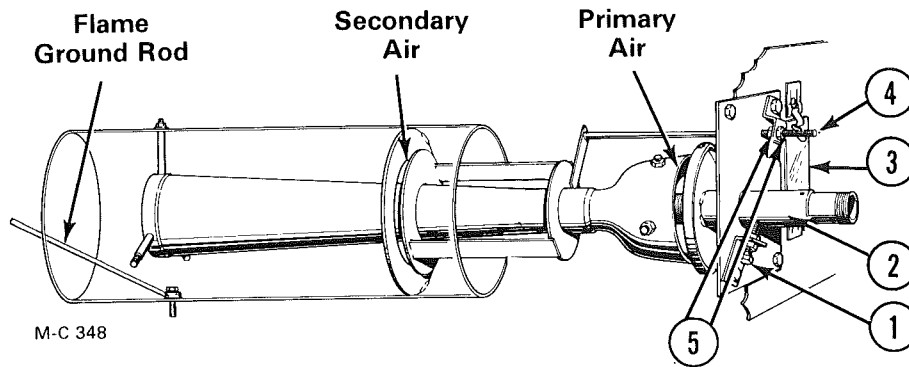

Figure 59
3. If the primary and secondary air adjustments have been misadjusted, time can be saved by shutting down the burner and starting over. Close the primary air adjustment all the way by loosening locking bolt (1) and turning the primary air adjuster pipe (2) clockwise, see Figure 59 and 60, then open it $1\frac{1}{2}$ to 2 turns. See note.
Close the secondary air adjustment all the way by loosening locknuts (5) and pushing the secondary air adjustment rod (4) in all the way, see Figure 59 and 61, then pull the adjustment rod out approximately $\frac{1}{8}$ inch.
(See Figure 59 and 60)
Secondary Air (See Figure 59 and 61)